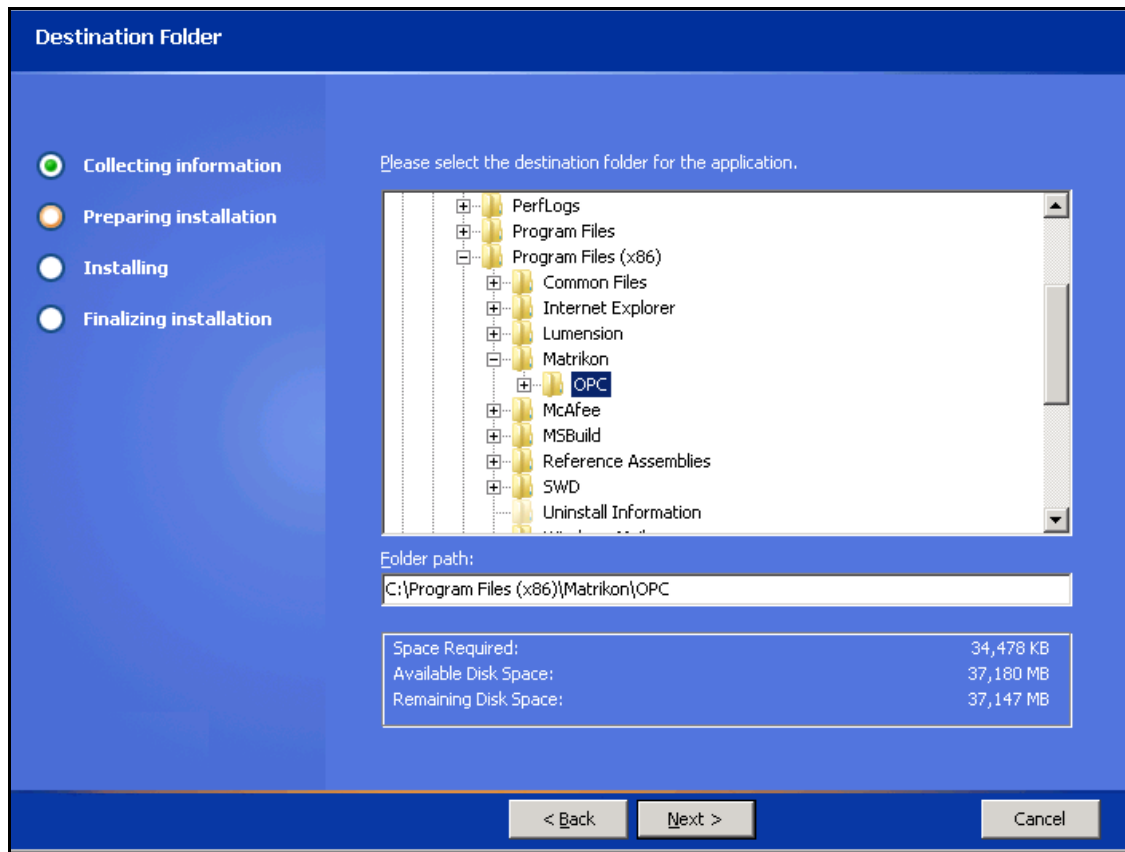

Figure 5 – Destination Folder screen
9. Click on the **Next** button. The **Destination Folder** screen (Figure 5) appears.